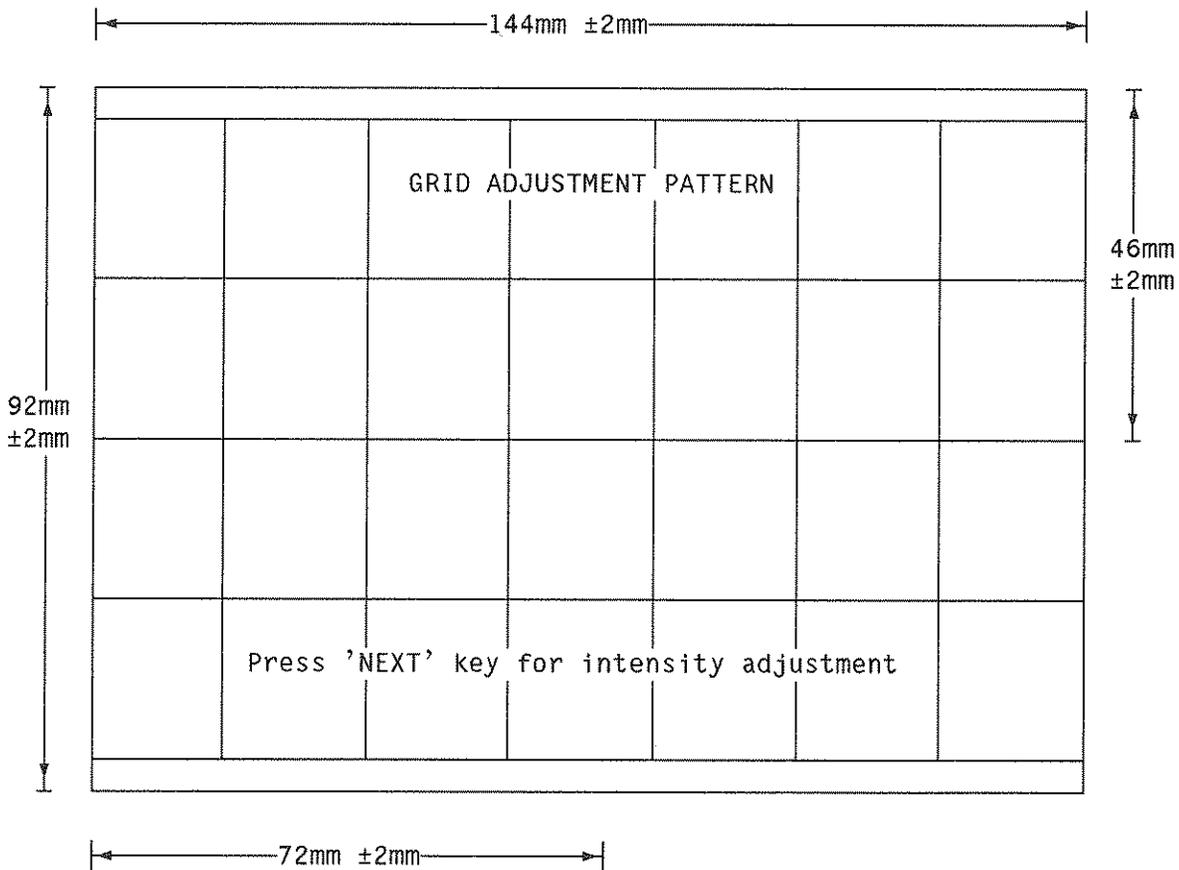

Figure 10-4. Grid Adjustment Pattern
6. Activate the Grid Adjustment Pattern shown in figure 10-4 by pressing the "Disp Adj" softkey on the controller.
10. Adjust HORIZ WIDTH until the total picture width is the same as the width of the outer boundary marks given in figure 10-4. Note that the outer edges of the display may NOT align with the outer boundary marks.
12. Adjust VERT PHASE to vertically align the Test Pattern. This should only require minor adjustment. See figure 10-4 for this measurement.